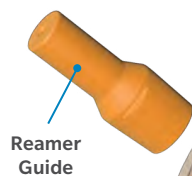

Figure 29
- Remove the Protecting Plate and introduce the Reamer Guide into the oval female taper of the stem (Figure 29).